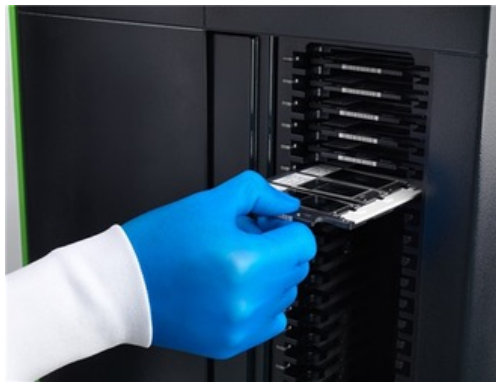

Figure 3.4. Pushing the Slide Carrier in until fully seated.
7. When the Slide Carrier is halfway into the Hotel Slot, the carrier engages a roller and creates a small amount of friction. Push the carrier further into the slot until it is fully seated. (See Figure 3.4.) Hold the Slide Carrier by the Carrier Handle with the slide labels facing upwards into a Hotel Slot.